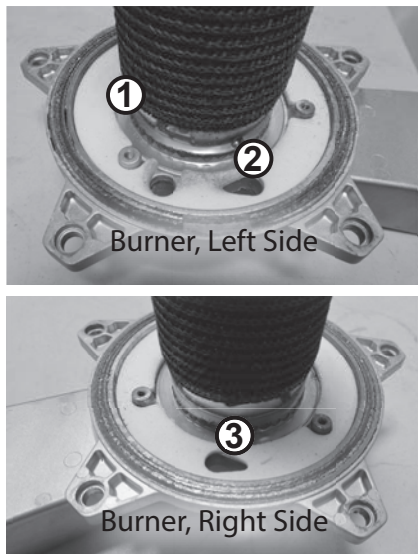

Figure 121 - Remove burner screws
**20** Locate the three (3) screws securing the burner to the burner door as shown in Figure 121. Use a Phillips screwdriver to remove screws. Place screws aside in a safe place for reinstallation.